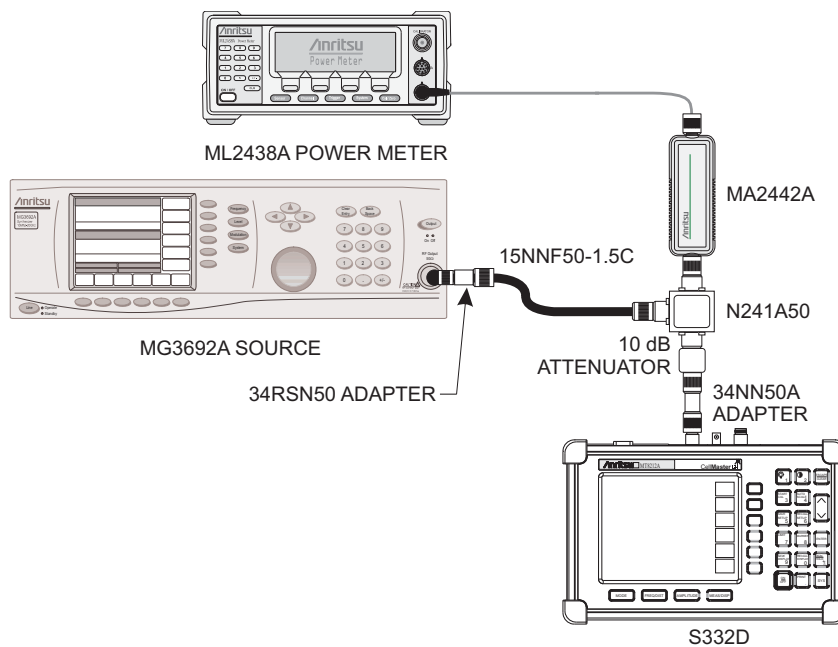

Figure 2. Level Accuracy Test Setup
17. Using the power splitter, coaxial cable, adapters and fixed attenuator, connect the Site Master to the signal source and the power sensor as shown in Figure 2.
- Using the power splitter, coaxial cable, adapters and fixed attenuator, connect the Site Master to the signal source and the power sensor as shown in Figure 2.